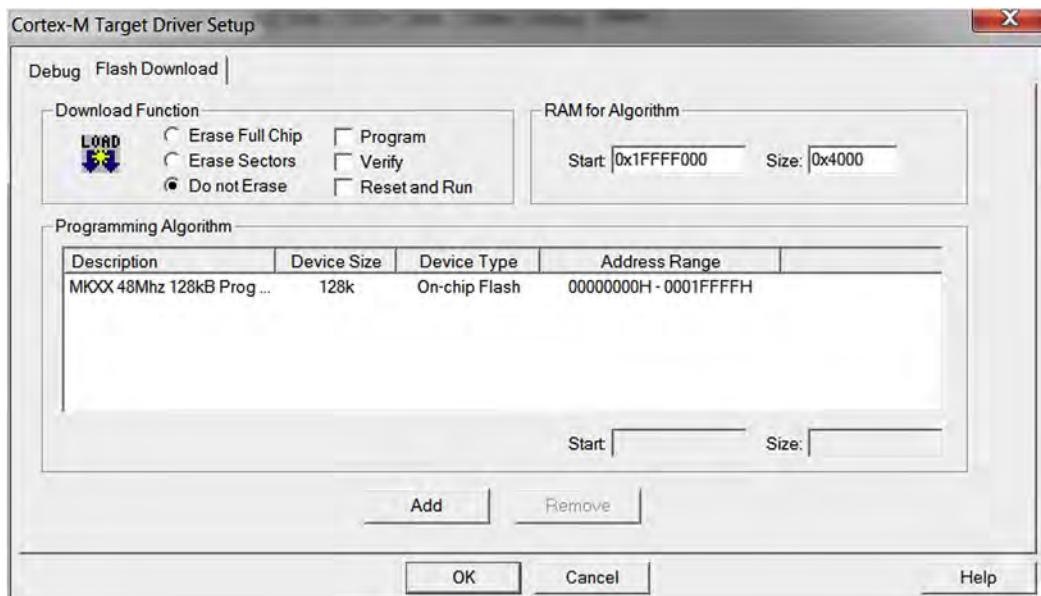

Figure 14.87
- Flash programming option (remove flash programming step, Figure 14.87)
In addition, the flash programming option is modified to remove flash programming steps (Figure 14.87).